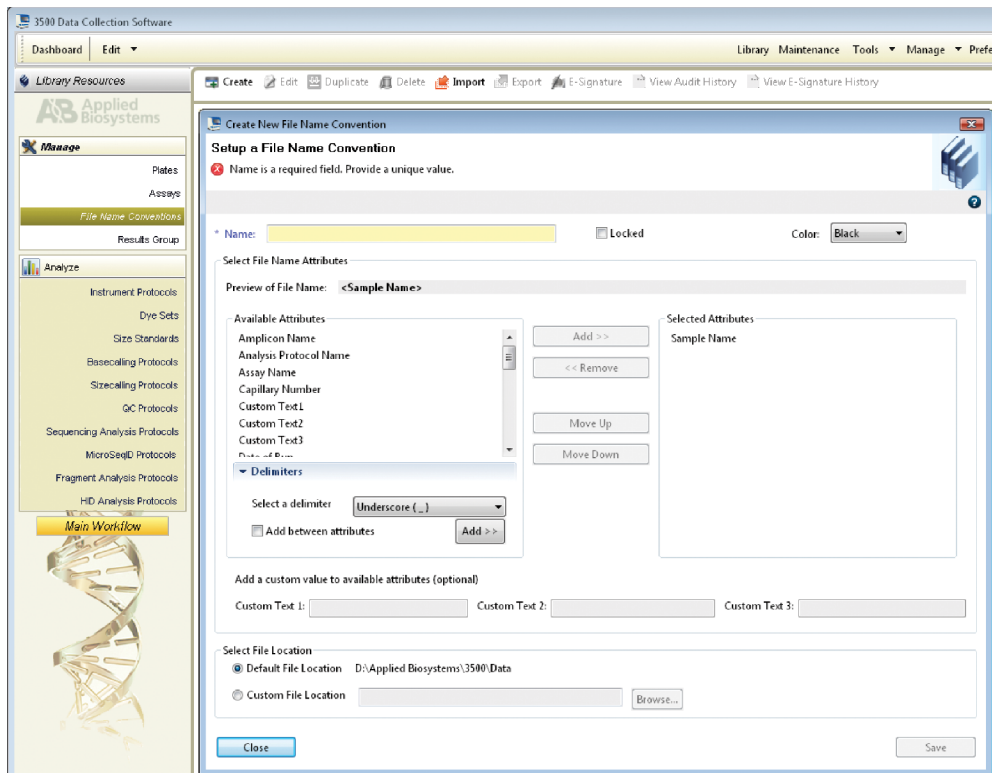

Figure 6. The 'Create New File Name Convention' window.
- 2.e. To create a new File Name Convention (Figure 6), navigate to the Library. Select **File Name Conventions**, and then select **Create**. Alternatively, a previously created File Name Convention may be used.